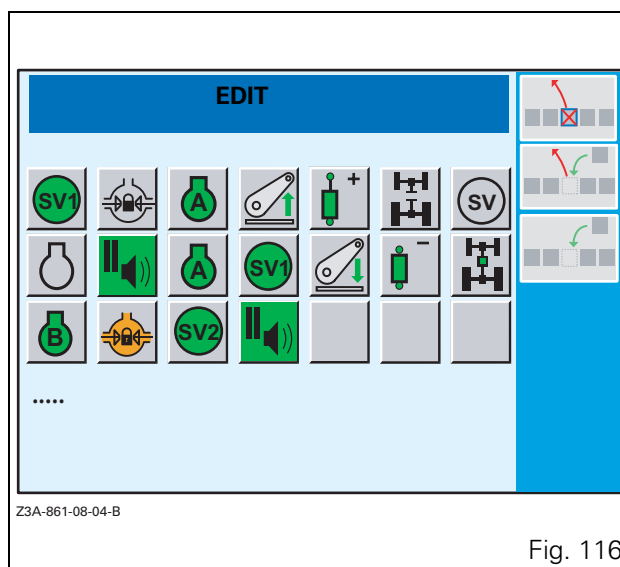
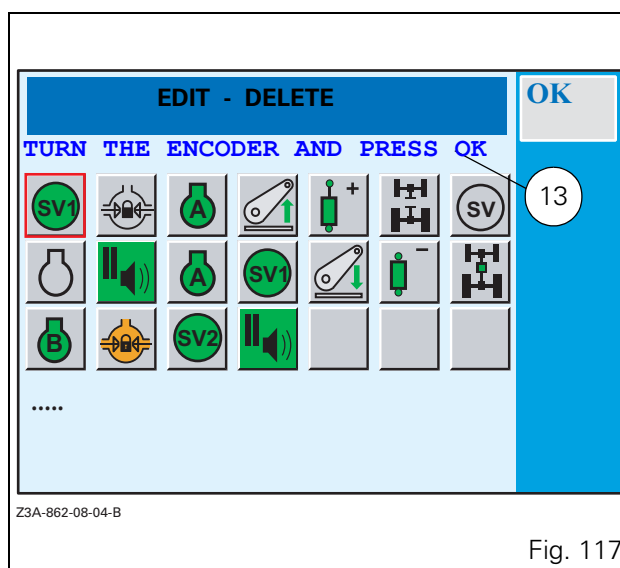
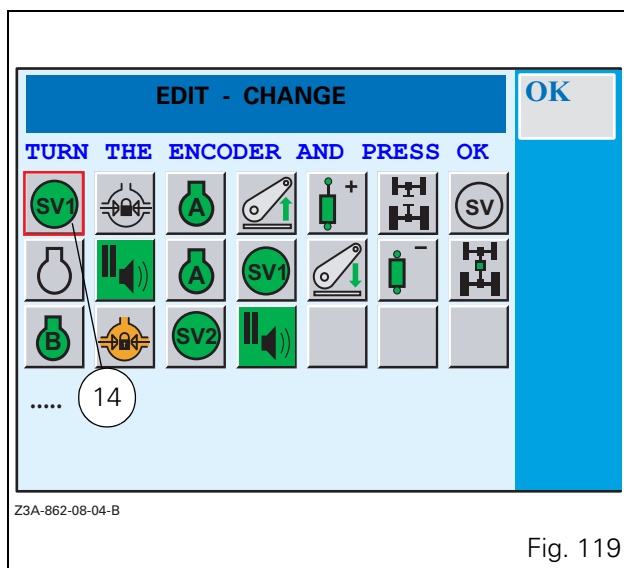

Fig. 116
Fig. 117
Fig. 119
- Press the key «₅, (the EDIT window Fig. 116 opens).
- Press the key «₁ in the window (Fig. 116). An instruction message is displayed (13) and the first icon is outlined in red (Fig. 117).
- Press the key \ll_2 in the window (Fig. 116). An instruction message is displayed and the first icon is outlined in red (14 Fig. 119).